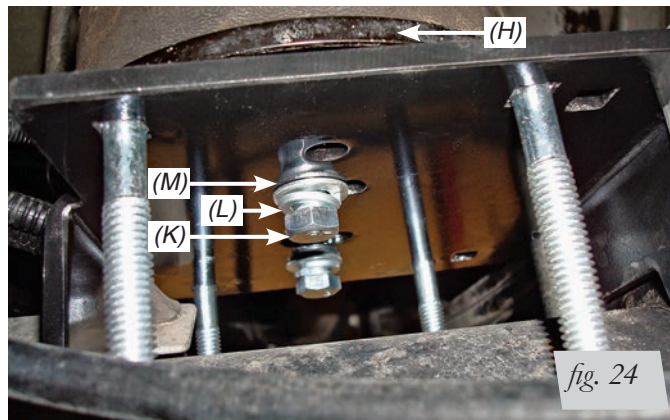

fig. 24
2. Looking below, line up the hole in the roll plate (H) with the bellows and attach using the 3/8 Hex Head bolt (K) lock washer (L) and flat washer (M) (Fig. 24). Repeat for the other mounting hole in the bracket. Since it will be hard to torque this bolt, unless using a crows foot wrench adapter, just tighten the hardware securely (no more than 20 lb.-ft. [27Nm]). Repeat for the other side.